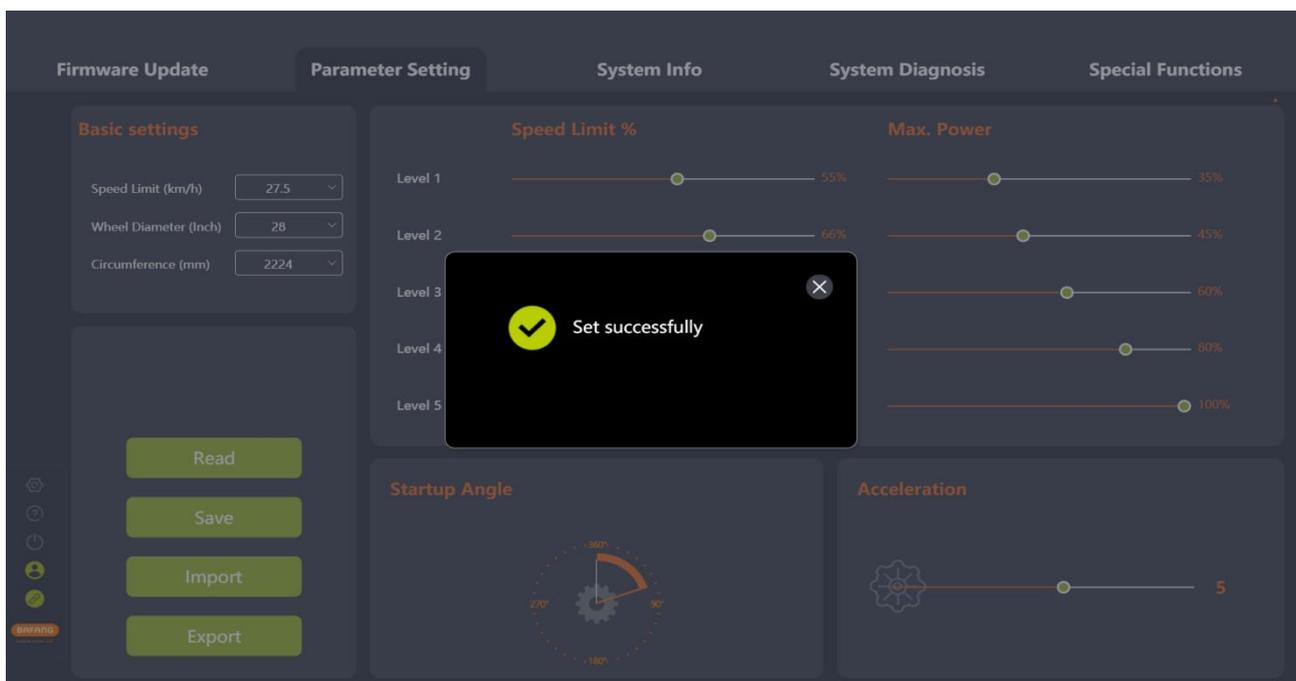

Fig. 5-6 Set parameters
- (4) After logging in, you can set parameters (Fig.5-6).